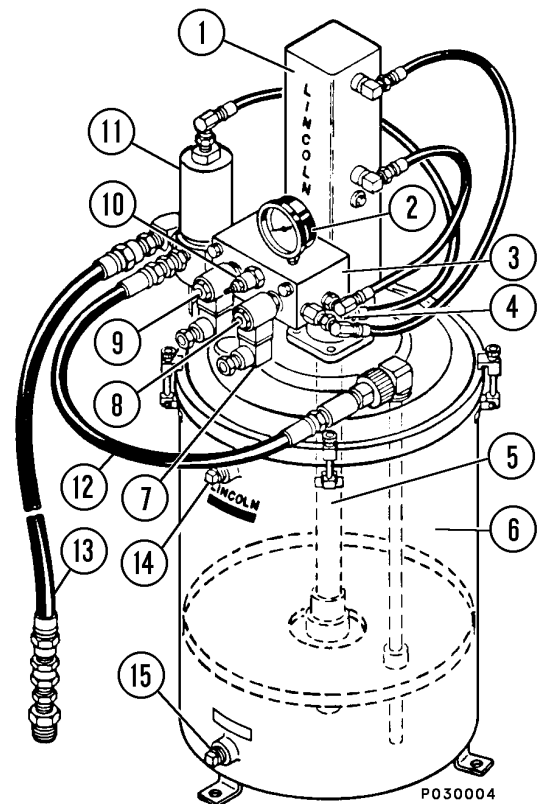

FIGURE 42-8. TYPICAL AUTO LUBE SYSTEM
1. Remove top vent plug (14, Figure 42-8).
2. Remove bottom fill plug (15).
3. Connect the line from the lubricant delivery system to bottom fill port (15) and fill the reservoir until grease just begins to come out of the top vent hole, above.